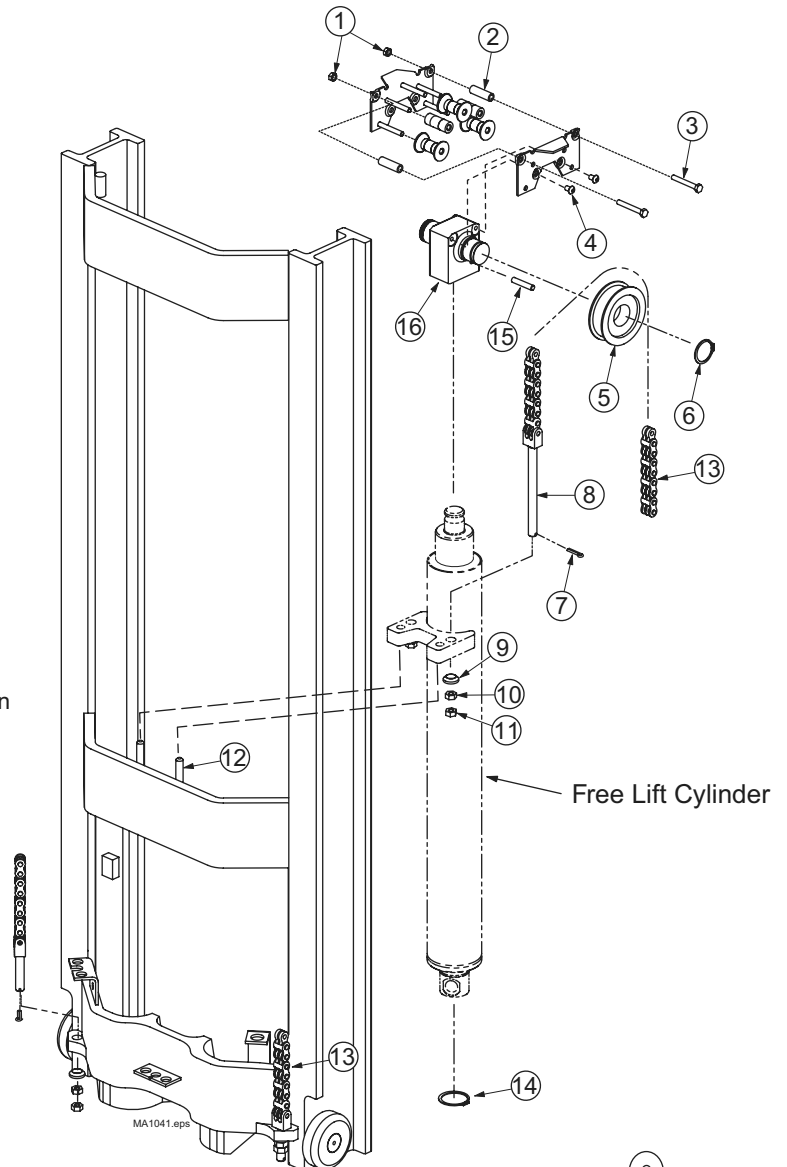

Figure 6-8
6.2-1 Cable, Hose and Chain Sheaves (Refer to figure 6-8 6-10, 6-11 and 6-12)
- * Remove snap rings (6) and sheaves (5).
- * Remove screws (4) securing mounting plates to crosshead (16) and remove assembly from block.
- * Remove pins (15) and crosshead (16) from primary cylinder piston rod.
- * Loosen and remove nuts (1), capscrews (3), and spacers (2).
6.2-2 Free Lift Cylinder (Refer to figure 6-8)
- * Remove cotter pins (7), jam nuts (11), full nuts (10) and ecentrical washer.
- * Remove chain anchors (8) and lift chains (13).
- * Remove snap ring (14). Lift cylinder off alignment pin (12) and out of upright.